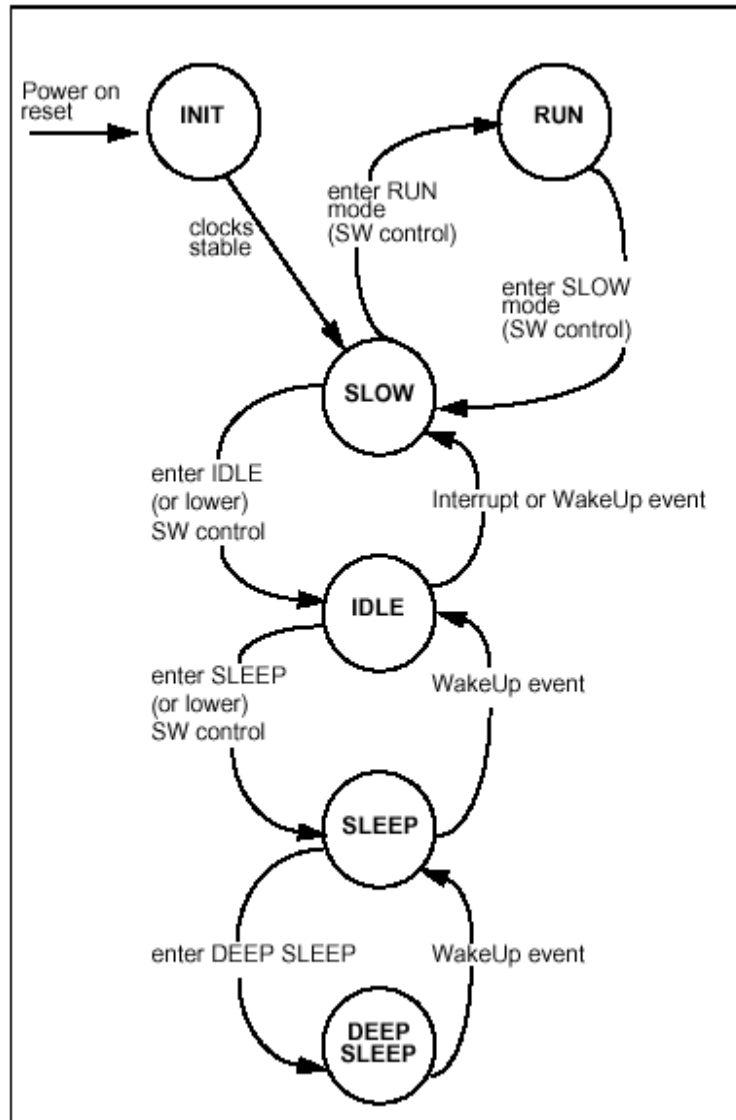

Figure 6-4. PMU Power Management State Diagram
- The PMU state machine will enter DEEP SLEEP mode (via the intermediate states shown in Figure 6-4. PMU Power Management State Diagram.